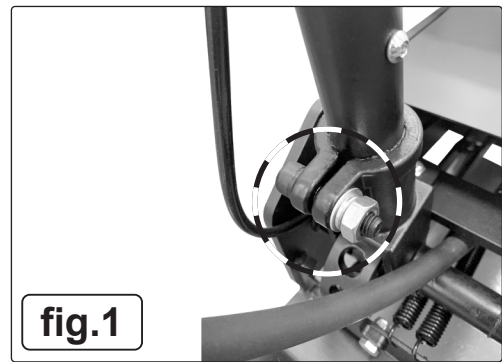

fig.1
5. Secure the handle in the fork by tightening the screw and nut using an 8mm Allen wrench and an adjustable wrench. Fig. 1